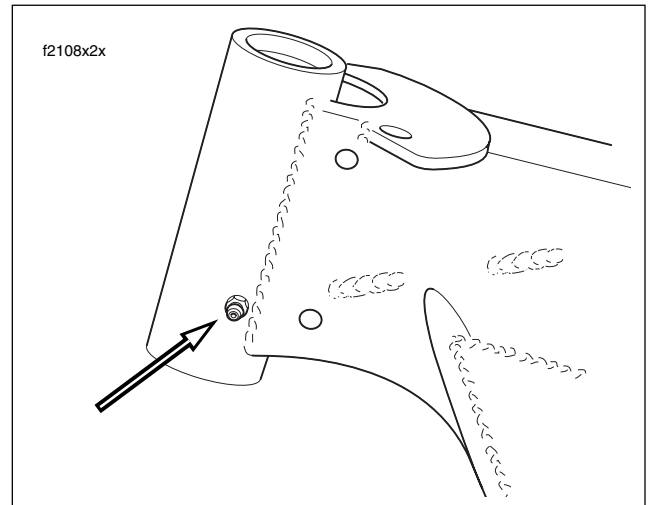

Figure 1-25. Steering Head Bearing Grease Fitting
1. Turn handlebar full right to access the grease fitting at the left side of the steering head. See Figure 1-25.